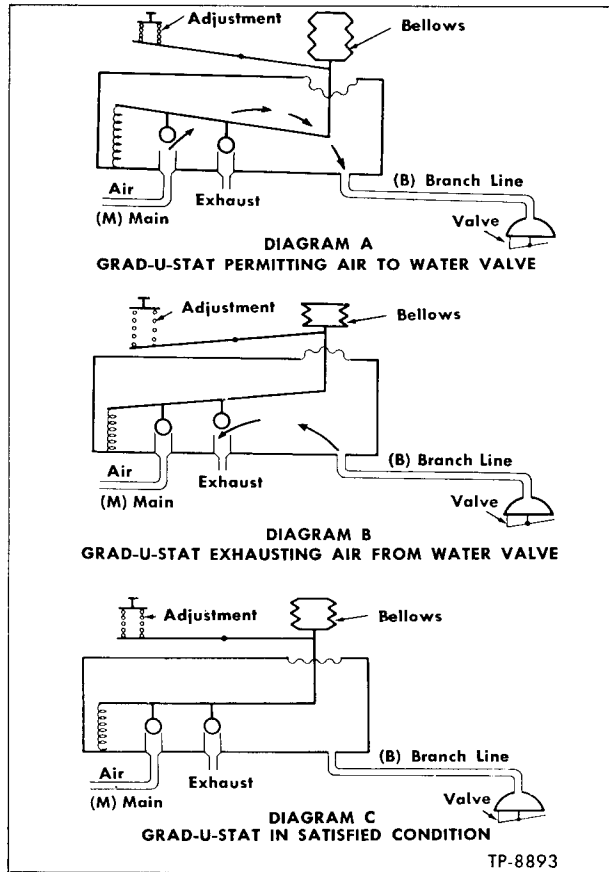

Figure 18—Grad-U-Stat Operational Diagram
Operation, reference is made to simplified diagrams shown in figure 18 which illustrate reaction of Grad-U-Stat under varied temperature conditions.
As temperature in coach rises, bellows (A) expands and exerts downward force on secondary lever (C) through main lever (B) and adjusting button (D). Downward movement of secondary lever is transmitted to lever (E) in air control chamber (F) of unit, increasing air pressure delivered to water modulation valve as shown in diagram A, figure 18. This increased air pressure at the modulation valve, causes the valve to close, reducing the flow of water through the underfloor heater core.
When temperature in coach lowers, the bellows (A) contract and relieve pressure exerted in air control valve lever (E). Air valve then exhausts air pressure from water modulation valve, increasing the flow of water through the underfloor heater core as shown in diagram B, figure 18. The air pressure delivered by the Grad-U-Stat varies in proportion to the inside coach temperature acting upon the bellows; thus, flow of water through underfloor heater core is graduated as required in accordance with inside coach temperature. Diagram "C" figure 18, shows status of Grad-U-Stat